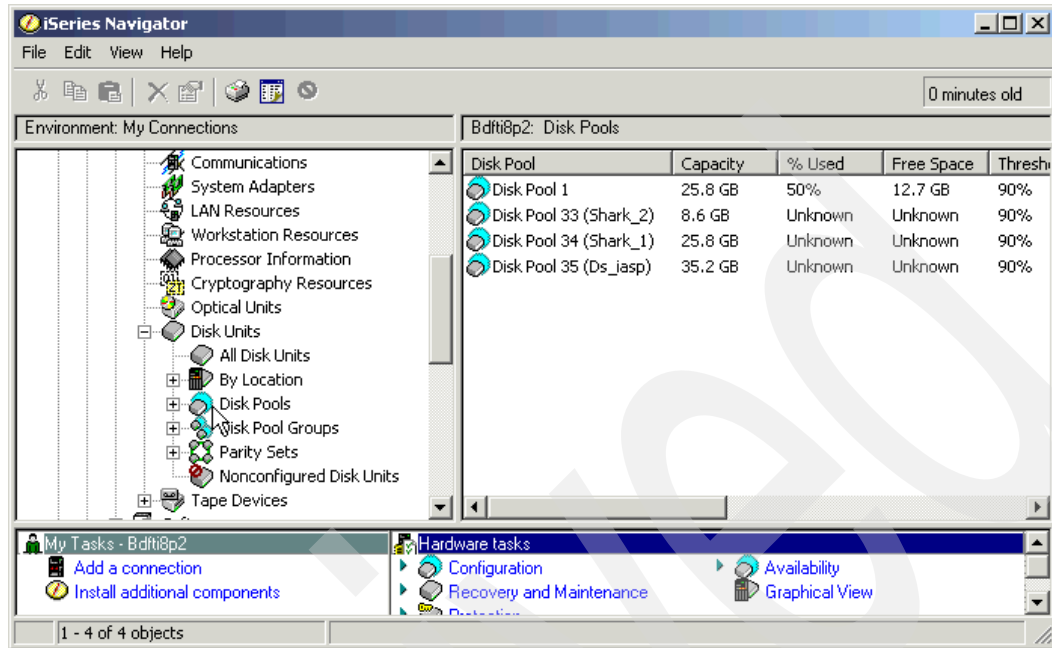

Figure 17-18 New disk pool shown on System i Navigator
15. The new Disk Pool can be seen in the System i Navigator Disk Pools window shown Figure 17-18.